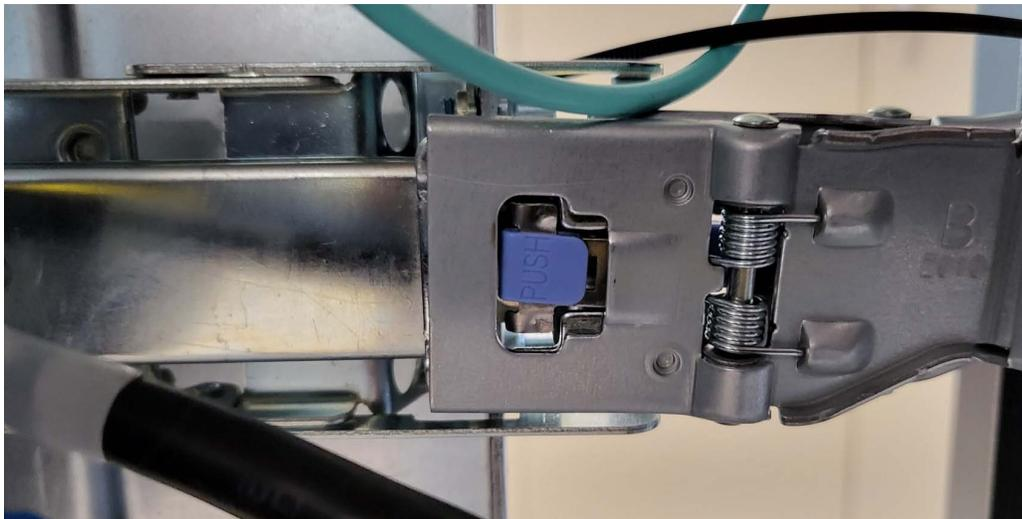

Figure 8.34 CMA inner arm correctly installed
3. Slide the inner arm connector onto the inner arm rail connector until the release button clicks. When connected correctly, the inner arm of the CMA appears as shown in Figure 8.34.